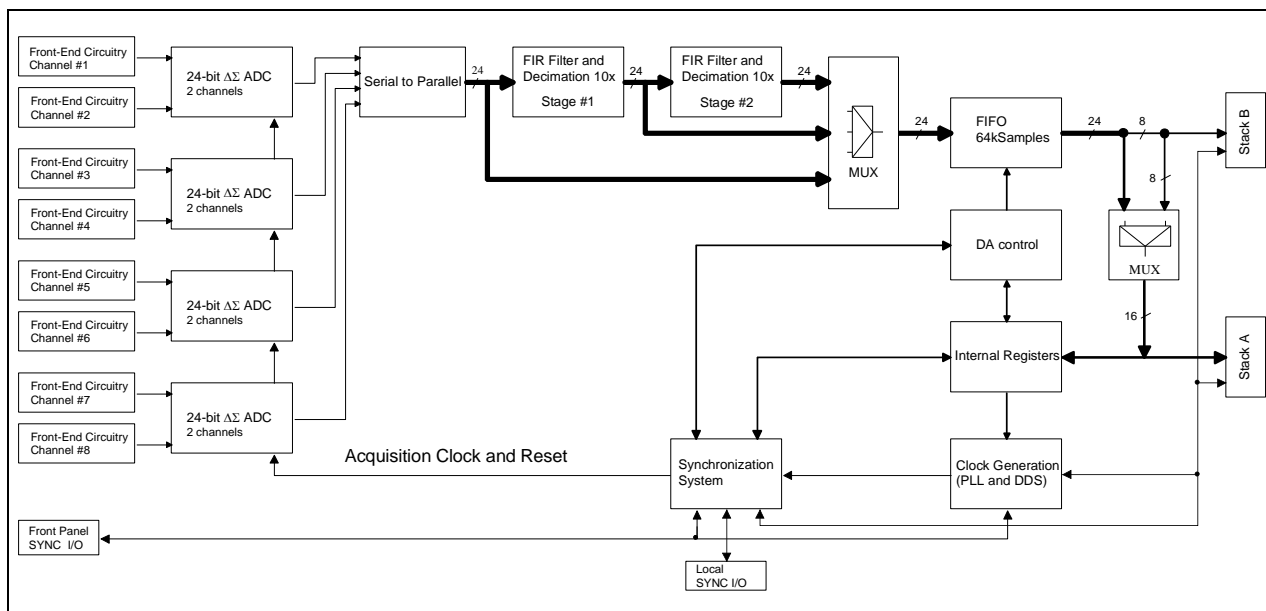

Figure 3 – Simplified block diagram of 3424 function card
- If you want to install a function card in the upper position of a stack without having a function card in the lower position, you need to mount both spacers (Fig. 3, Pos. 11) on each standoff. If the stack is already populated with a function card in the lower position, mount only the bigger spacer (Fig. 2, Pos. 8) onto each standoff.
A simplified block diagram of 3424 function card is shown on Figure 3. A brief description of the most important blocks and available functionality follows.